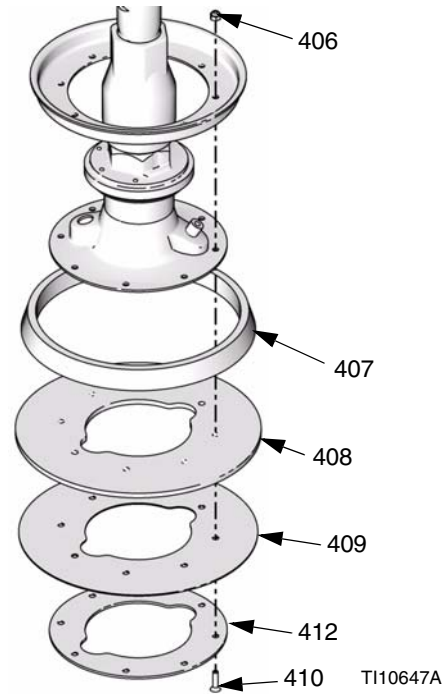
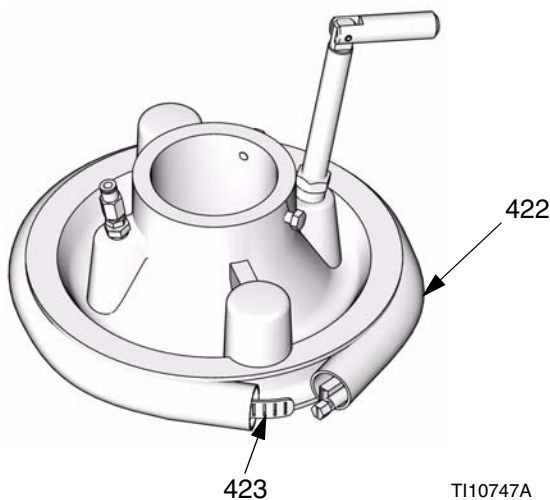

FIG. 14
FIG. 16
1. For flat wipers see FIG. 14:
- a. Remove screws (410), nuts (406), and retaining clamp (412).
- b. Separate wiper (408), wiper plate (409), and spacer (407).
- a. Attach wiper (408), wiper plate (409), spacer (407), and retaining clamp (412) with screws (410) and nuts (406).
- b. Do not overtighten screws (410), to prevent warping the wiper plate (409).
2. For tire wiper, 255659 only, see FIG. 16:
- a. Thread worm gear (423) through new wiper (422).
- b. Insert strap end through clamp (423) and tighten.
- c. Use rubber mallet to pound wiper (422) around plate (414) until the wiper ends are butted tightly together.
- d. Apply lubricant to wiper (422). Use lubricant that is compatible with the material to be pumped. Check with material supplier.